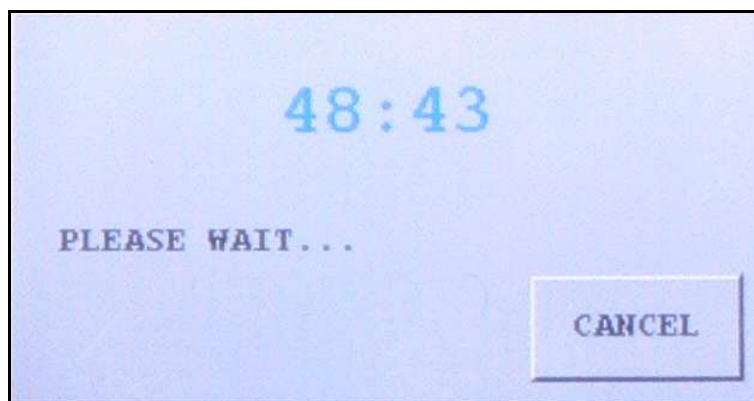

Figure 2-1 Helium Background Timer
- ❑ Background is changing, indicating the system is still pumping away background helium, a countdown timer appears (Figure 2-1). The VS system monitors the helium background and shows the time until the calibration begins. Should you prefer not to wait, a *Cancel* button permits the calibration request to be cancelled.